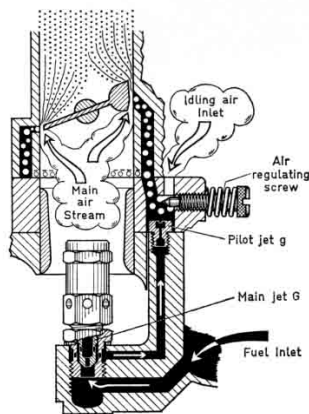

Fig. 17 Idling with air control
B. Idling with Air Control (Fig. 17)